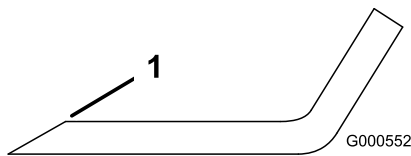

Figure 66
1. Use a file to sharpen the cutting edge at both ends of the blade (Figure 66).
**Note:** If the blade is not balanced, file some metal off the end of the sail area only (Figure 66).